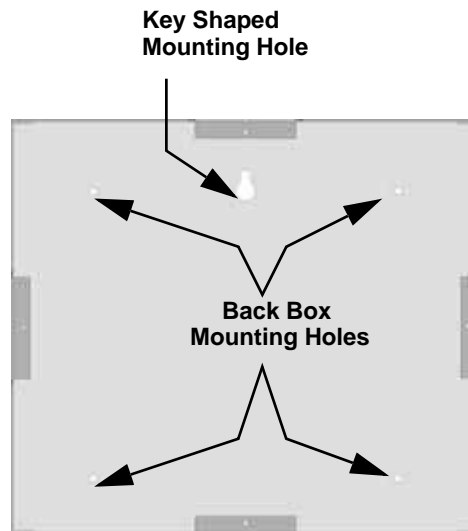

Figure 4-12 Back Box Surface Mount Holes
2. To properly mount the back box, insert a single screw into the key shaped mounting hole. Do not tighten all the way. See Figure 4-12. Place a level on top of the back box, with the back box level insert the rest of the mounting screws.